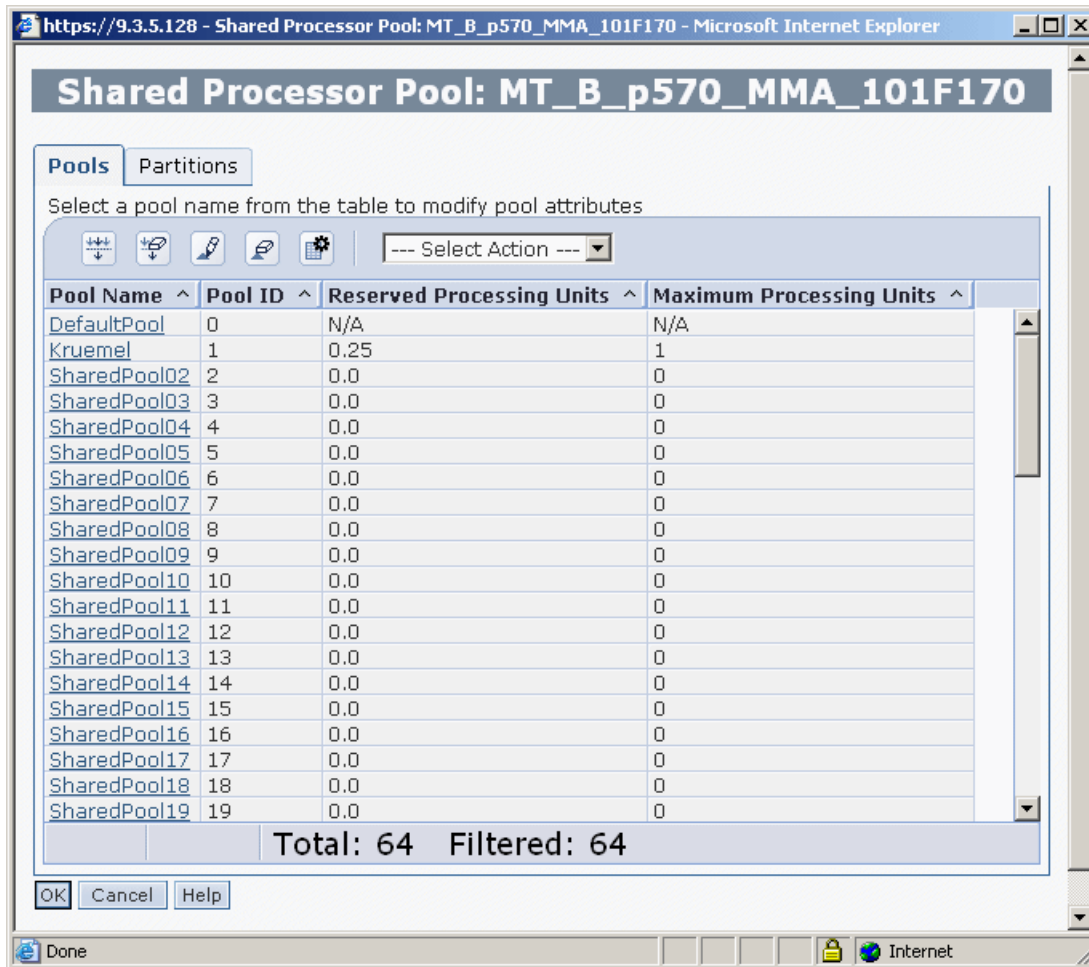

Figure 3-1 Shared Processor Pool
**Shared Processor Pool Management.** The defined shared processor pools are displayed as shown in Figure 3-1.